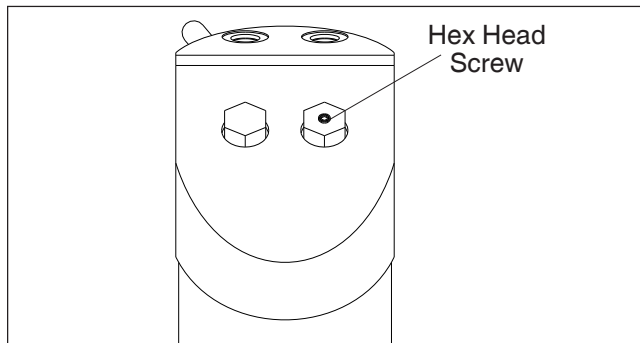

Figure 6.6 — Outrigger Holding Valve
3. Locate the two pilot operated check valves installed near the base end of the cylinder (refer to Figure 6.6). One of the check valves has a screw with a $\frac{3}{16}$ " hex head in the top of the cartridge. Use a $\frac{3}{16}$ " hex wrench and turn the screw in (clockwise) until the cylinder